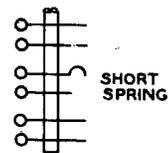

Fig. 12—240G Plug
- (f) **240G:** The 240G plug (Fig. 12) is used with the 384A jack on step-by-step switches.